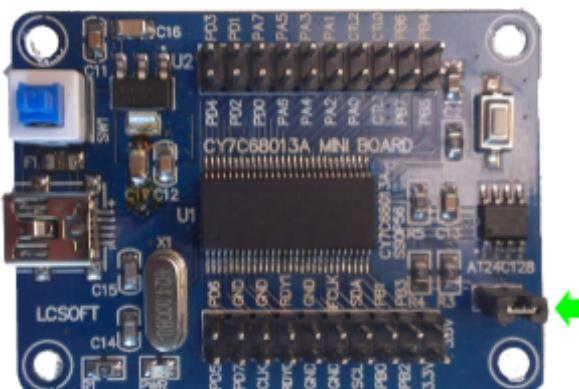

Figure 2 - CY7C68013A MINI BOARD - this board can be used as it is.
- a. The **CY7C68013A mini board** can be bought on eBay using this search link. Be careful to order a board that looks identical to Figure 2 with **ONLY ONE JUMPER**.